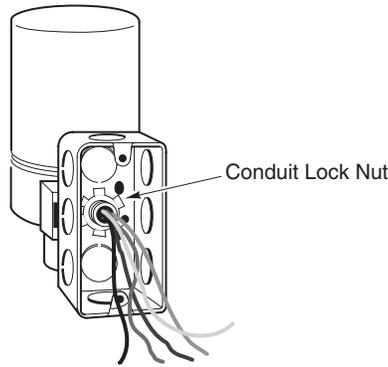

Figure-12 Attachment of Conduit Box to Threaded Adaptor.
- Loosely install the conduit box and the locknut onto the conduit bushing. Refer to Figure-12.